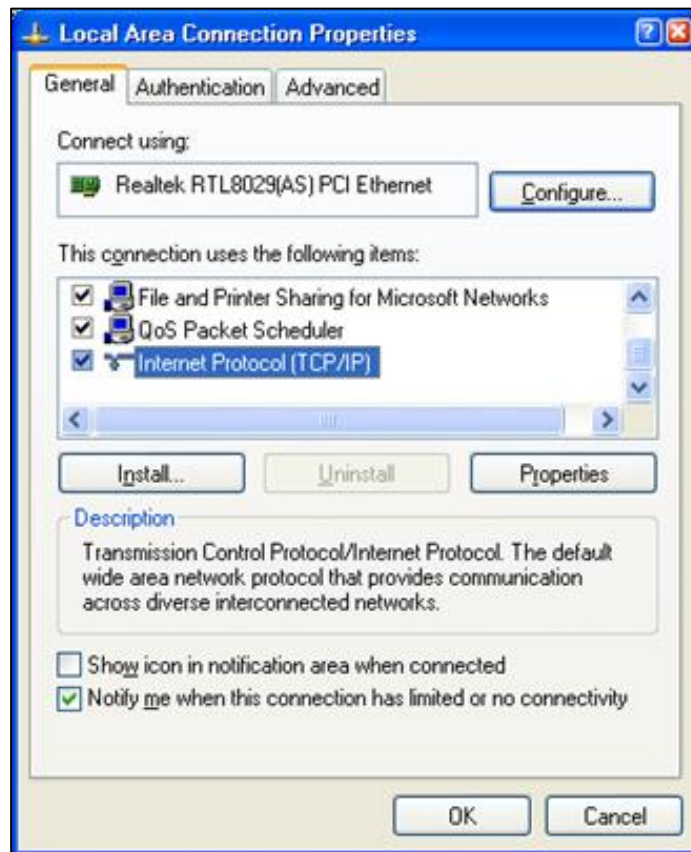

Figure C- 1: Window for modifying the properties of a network connection.
- This brings up a window similar to that shown in **Figure C- 1**.